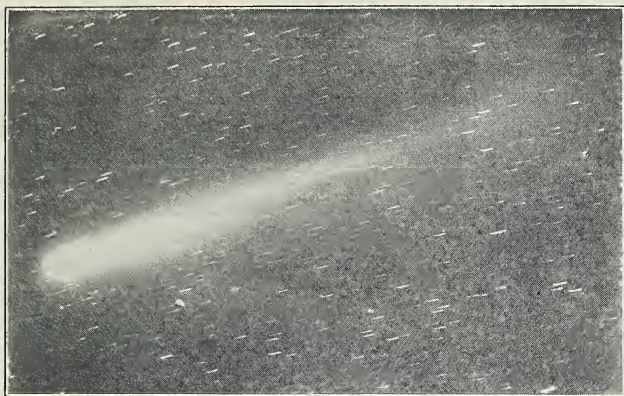

Fig. 561. Halley's Comet. In the long exposure necessary, the motion of the earth carries the camera under the stars, producing the small streaks.
**Comets and meteors.** Comets are often many times as big as planets. They are composed chiefly of thin matter, gas, but in addition they may have solid matter in small pieces. Some of them have been described as traveling gravel banks. Their tails, when they have tails, are so thin that the waves of the sun's radiant energy keep them pointed away from the sun. From calculation of their orbits, astronomers conclude that some are members of the sun's family but rather wayward members, circulating in orbits very different from those of the planets. Some comets return regularly. Halley's comet appears every 75 years, and Encke's comet appears every  $3\frac{1}{4}$  years. (Fig. 561.)